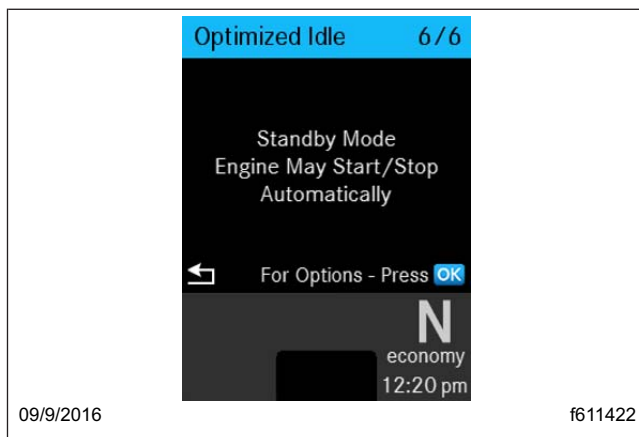

Fig. 10.4, Optimized Idle State Screen
7. Select OK to enable Optimized Idle, and, if desired, turn on the interior comfort mode (sleeper cabs only). The current Optimized Idle state is displayed. See Fig. 10.4.